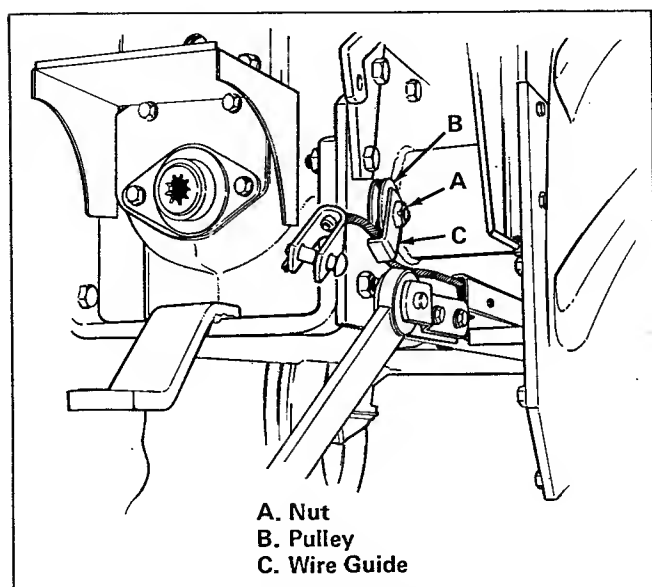

Figure 8. Pulley and Guide Removal
14. Remove nut (item A, figure 8) to remove right-hand pulley (item B) and wire guide (item C).